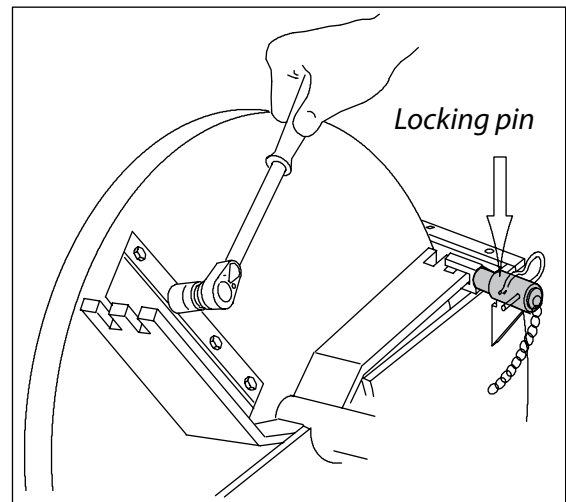

Fig. 20. Locking the disk and removing the lock nuts
- Remove the upper chamber (A) securing bolts (M6) (B) and fastening bolts (M12) (C). Turn the upper chamber to the side.
- To remove the upper chamber, remove the securing bolt (M6) (D) and hinge bolt (M12) (E).
- Lock the disk with the lock bolt Fig. 20.
1. Remove the knife lock nuts (M10). Fig. 20.